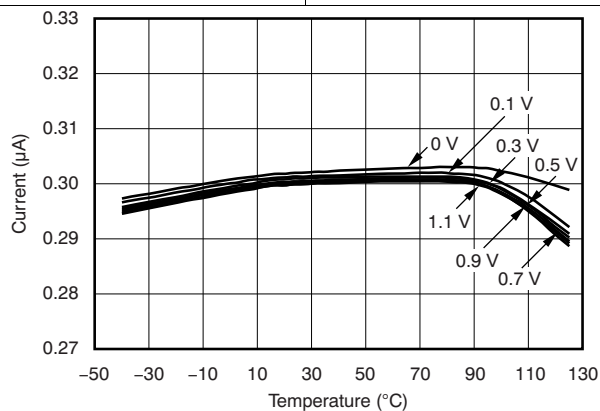

Figure 28. TPS386040 CT1 to CT4 Pin Charging Current vs Temperature Over CT Pin Voltage
- (1) Toggling WDI for a period less than t_{WDT} negatively affects I_{DD} .
- (2) These specifications are beyond the recommended V_{DD} range, and only define $\overline{\text{RESETn}}$ or RESETn output performance during V_{DD} ramp up.
- (3) The lowest supply voltage (V_{DD}) at which $\overline{\text{RESETn}}$ or RESETn becomes active; $t_{\text{RISE}(V_{DD})} \geq 15\text{ }\mu\text{s/V}$.
- (4) CTn (where $n = 1, 2, 3$, or 4) are constant current charging sources working from a range of 0 V to $V_{TH(CTn)}$, and the device is tested at $V_{CTn} = 0.5\text{ V}$. For I_{CT} performance between 0 V and $V_{TH(CTn)}$, see Figure 28.